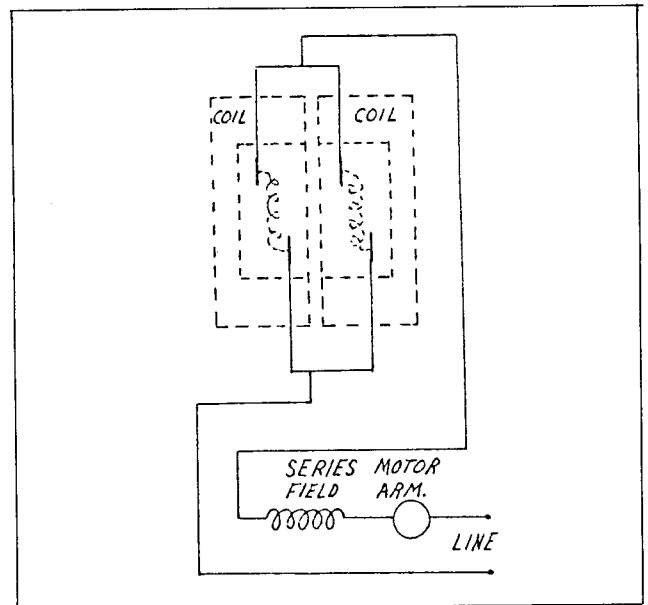

Fig. 4. Series Coil Connection
c. SERIES COIL OPERATION.—Series brakes are operated with coils connected directly in motor circuit. Due to high currents, coils are connected so that  $\frac{1}{2}$  of the motor current flows through each brake coil as per Fig. 4. In case of coil failure, brake may be operated on one coil for shorter time by disconnecting defective coil.